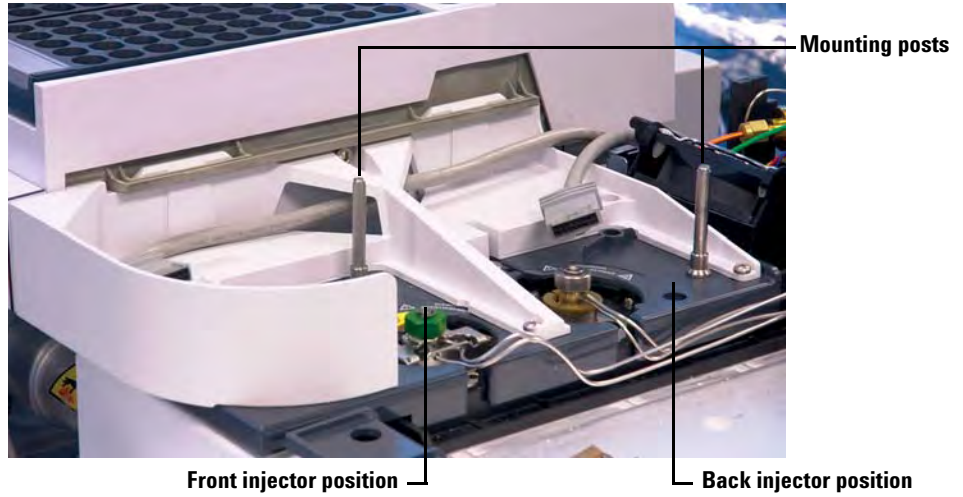

Figure 11 Installing the mounting post(s) on a 7890A GC
- **7890A and 7820A GC.** Install into the inlet cover in the front or rear location, as desired. The post must be turned all the way down (Figure 11).